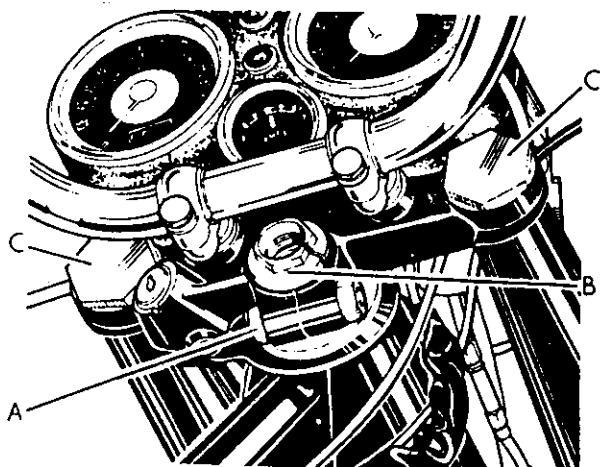

FIG. E.3. Top yoke.
Slacken the pinch bolt (A), and remove the adjuster nut (B) Fig. E.3. Unscrew and remove top caps (C) with service tool No. 60-779.
Remove the two caps (C). Fig. E.3.